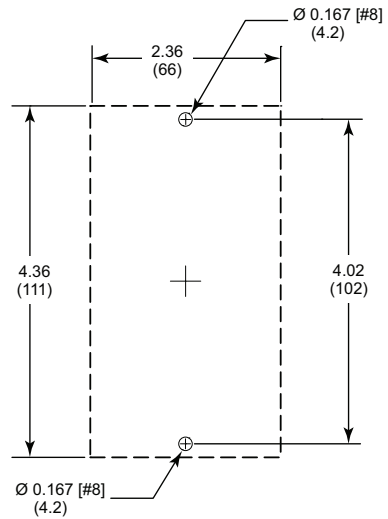

Figure 3: Panel Mounting Template
1. For DIN-rail mounting, snap the relay onto the 35mm DIN track. For panel mounting, remove both terminal connectors. Using a thumb, gently extend the two black DIN-rail clips from under the relay until they snap into panel-mount position and the mounting hole on each one is visible. Mount the relay to the panel using a #8 screw through the hole on each clip and then reinstall the terminals. See Figure 3 on page 3 for panel mounting template.